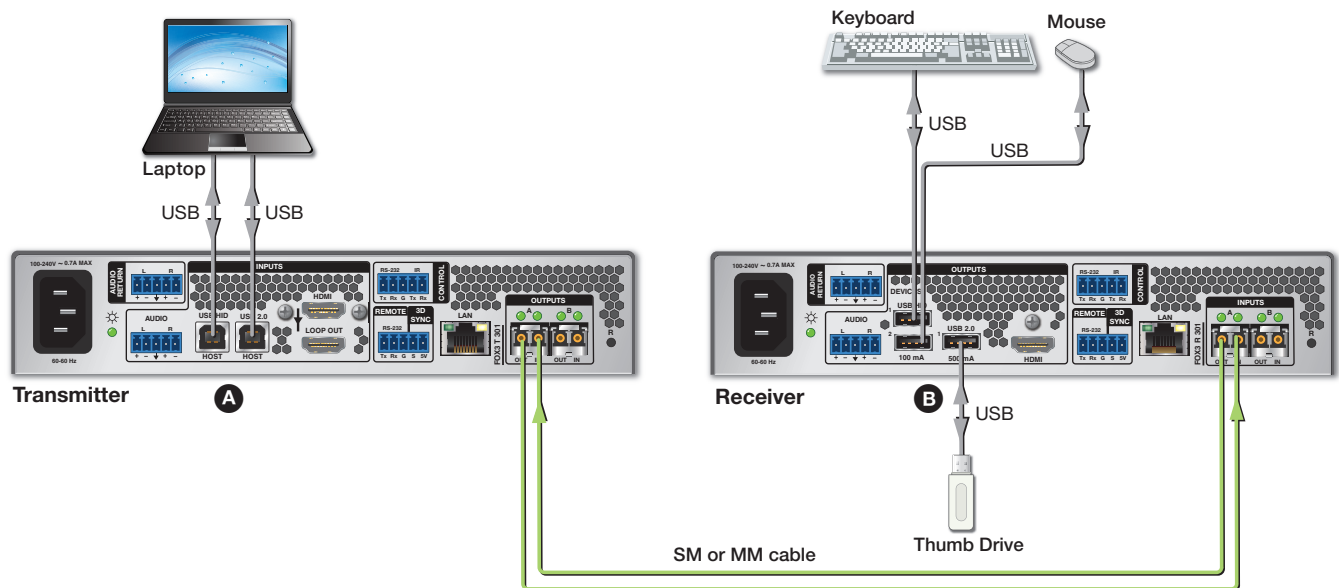

Figure 3. Peripheral USB Connections Diagram
g. Connect peripheral devices to the USB ports (see figure 3).